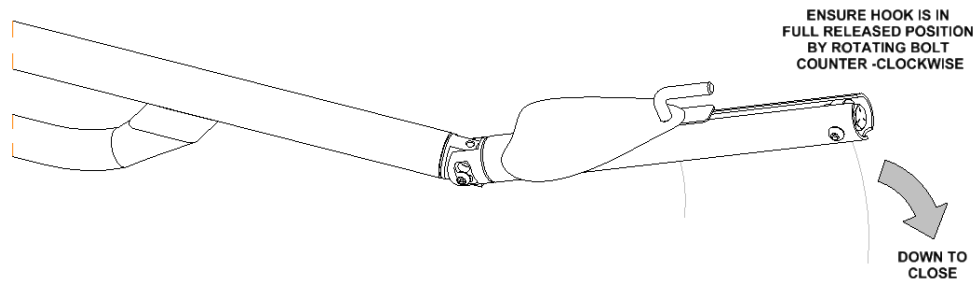

Figure 20: EZ Tension Arm in Open Position
5. Carefully push up tensioning arm into the 'Open Position'. See Figure 20.
2. With tension arms in open position, attach canopy corners to the hooks located at the end of the tensioning arms shown in Figure 20. Ensure the hooks are in the fully released position before attaching canopy by rotating the bolt counter-clockwise.